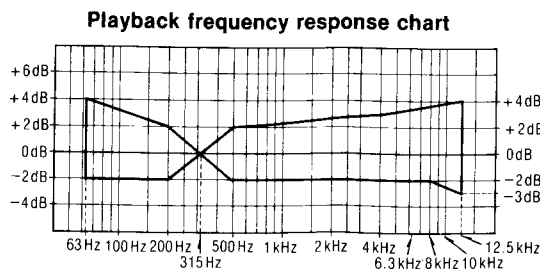

Fig. 8
5. Make sure that the measured values are within the range specified in the frequency response chart (Shown in fig. 8).